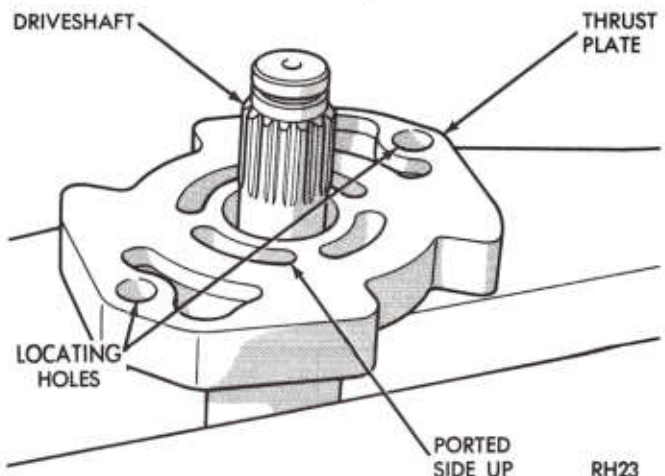

Fig. 11—Install Thrust Plate
(4) Lubricate large pump body to reservoir O-ring and install on pump body.
(5) With driveshaft clamped splined end up in soft-jawed vise, install thrust plate on driveshaft (ported side up) (Fig. 11).